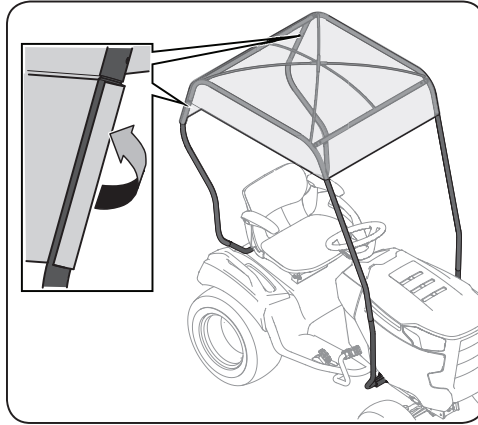

Figure 3-9
- There are two straps on the rear mesh flap of the sun shade. Wrap these around the rear supports and secure as shown in Figure 3-9.